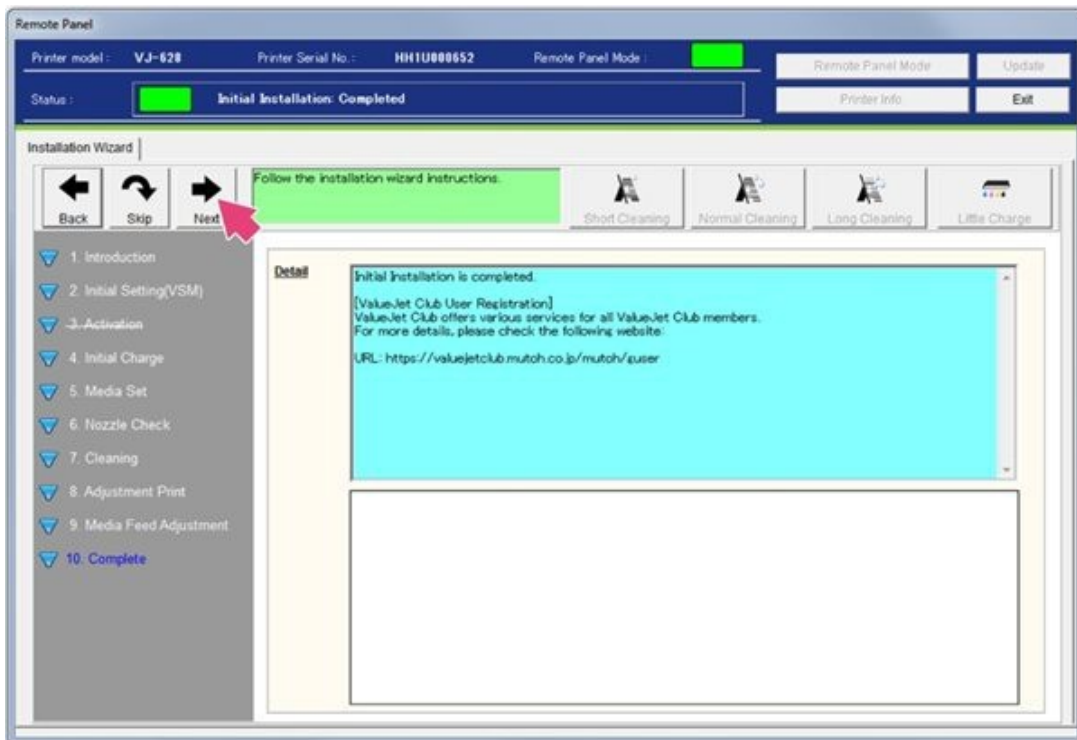

Figure 103
90. Initial Installation is complete. Select **Next**. See Figure 103.